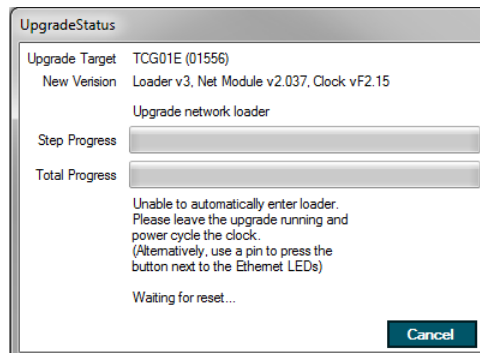

Figure 3. Cycle the power
4. **Power Cycle:** Clocks which have the firmware 2.017 (or earlier) may be requested to power cycle the clock (Figure 3). Refer to the trouble shooting section for help if the upgrade does not continue after the power is cycled.